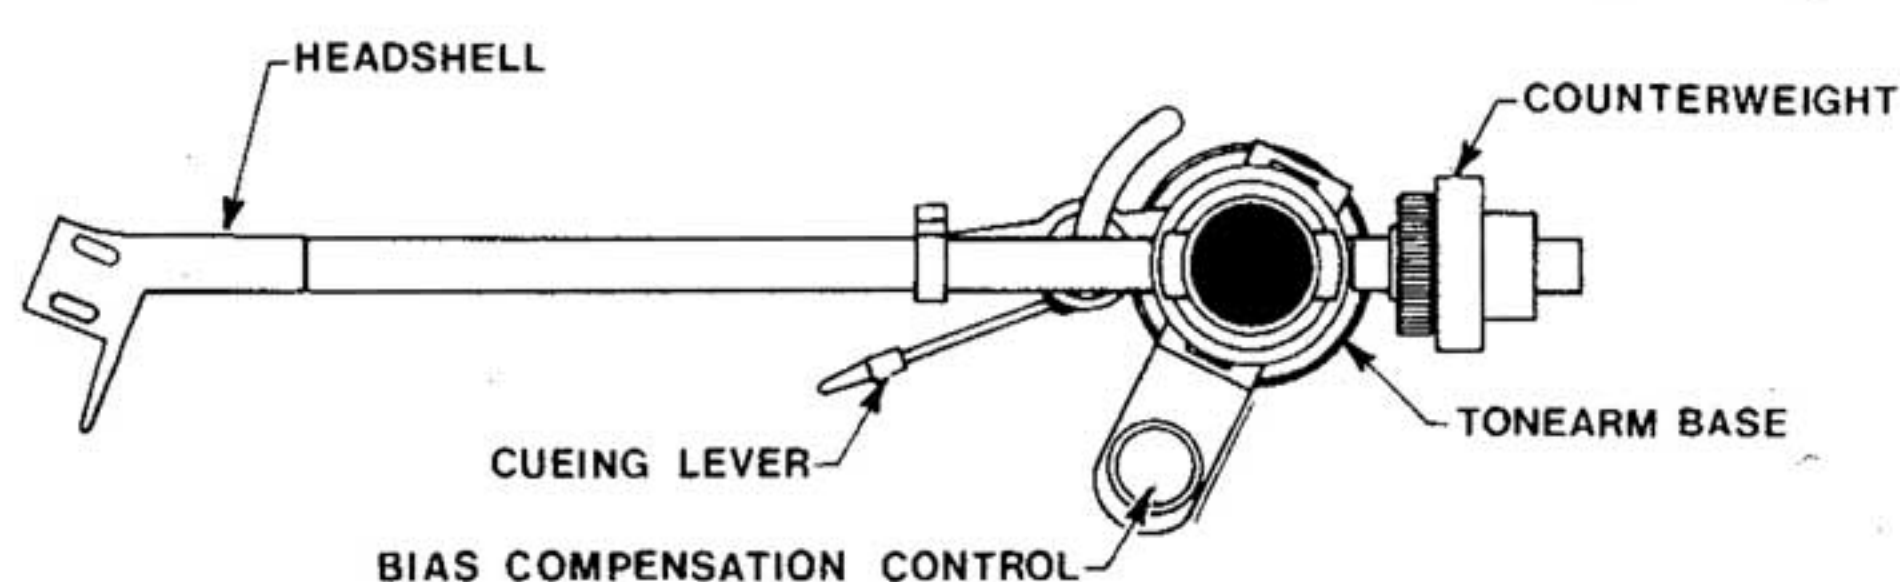
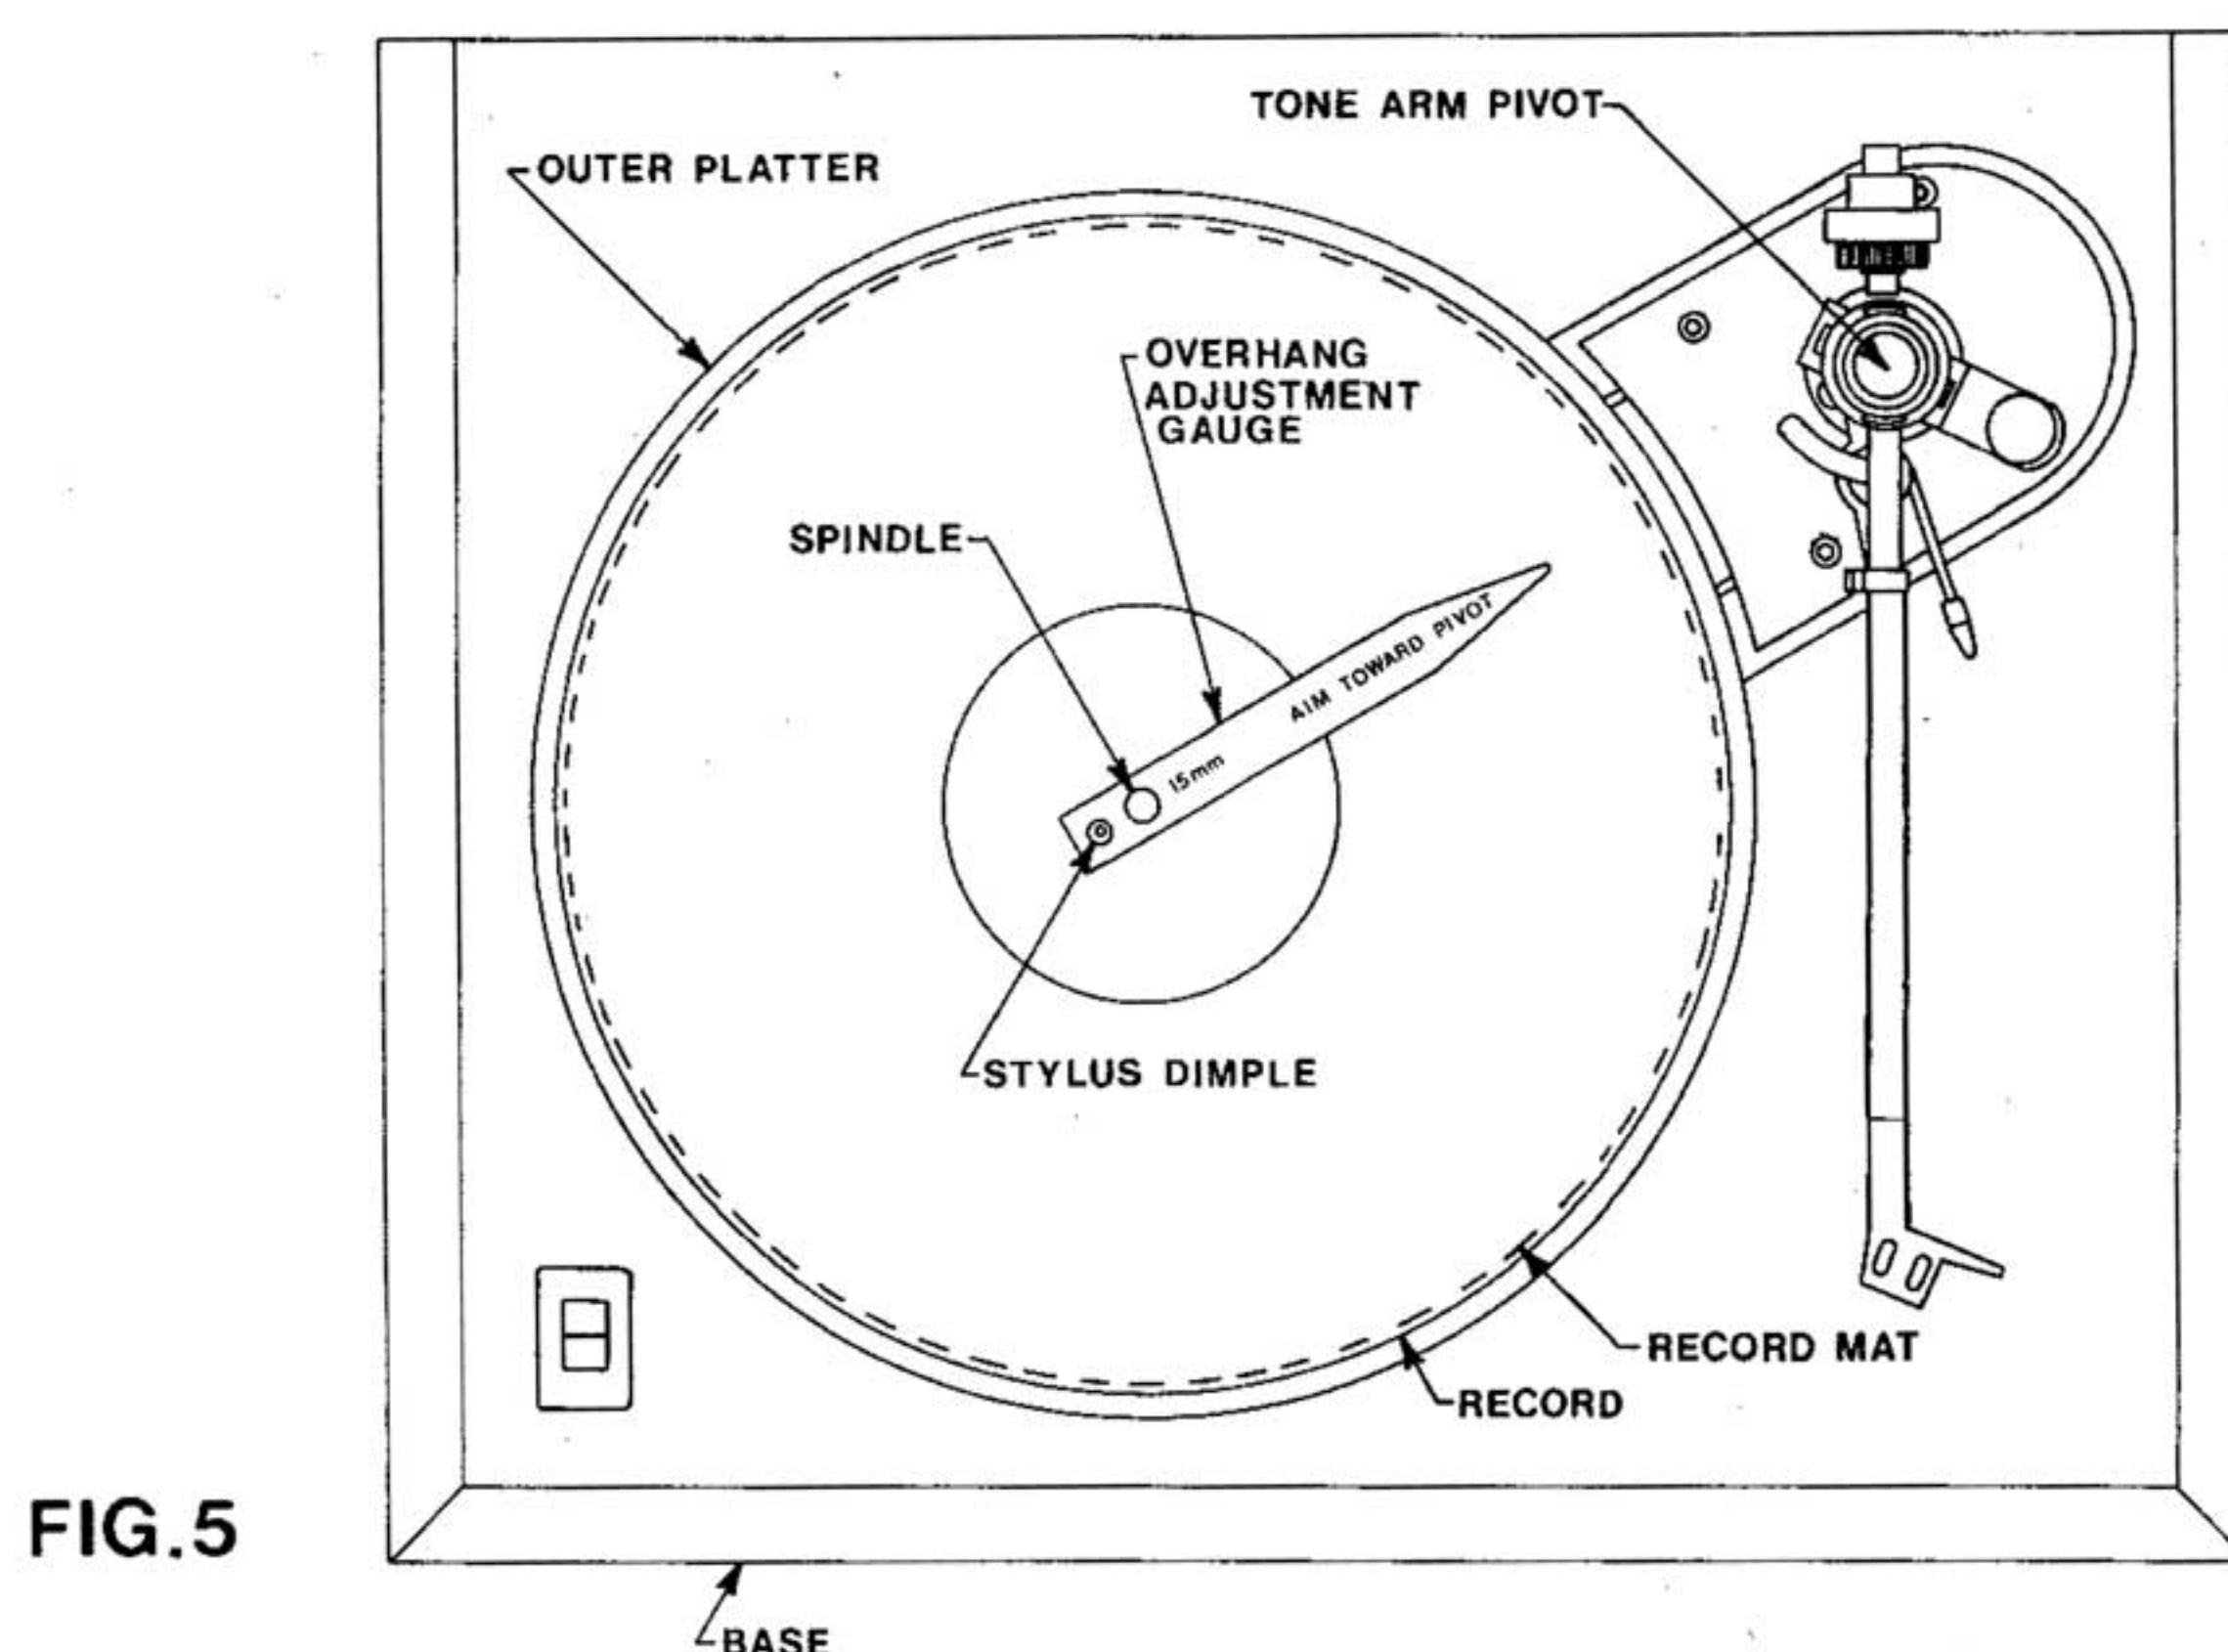

FIG. 3
FIG. 5
- (1) Mount the cartridge of your choice in the headshell. Follow the manufacturer's instructions in doing this and use either hardware supplied with the cartridge or that supplied with this turntable. The wiring in the headshell is color coded as follows: Right channel: red +, green -. Left channel: white +, blue -.
- (2) Mount the counterweight onto the rear of the tonearm. This is achieved by holding the weight by the large diameter and pushing it onto the rear of the tonearm (with the white numbers to the front) whilst rotating it in an anti-clockwise direction when viewed from the front.
- (3) Set the tracking force to about 1 gram. To do this, the arm first must be set to zero tracking force. Set the bias compensation control (fig 3) to zero, release the arm from the arm-rest, and then rotate the large-diameter counterweight until the arm floats freely in a horizontal position. The arm is now balanced to zero. Without moving the counterweight itself, now rotate the knurled calibrated dial relative to the counterweight until "0" is next to the white line on the tonearm. Now rotate the whole counterweight together with the calibrated dial in an anti-clockwise direction using the large diameter again until "1" is against the white line. The tracking force is now set to 1 gram.
- (5) Set the stylus overhang to 15mm. The clear plastic overhang gauge provided in the accessories is used in this step. Place the hole in the gauge over the turntable spindle and aim the pointed end of the gauge towards the pivot of the tonearm (fig 5). Loosen the screws holding the cartridge in the headshell and adjust the position of the cartridge backwards or forwards until the stylus point sits in the dimple in the raised portion of the gauge. It may be necessary to slacken slightly the 1.5mm allen screws in the tonearm base and rotate the entire tonearm temporarily in order to seat the stylus point as described above. **CAUTION—CARE MUST BE TAKEN NOT TO DAMAGE THE STYLUS ASSEMBLY WHILST MAKING THESE ADJUSTMENTS.** When the stylus is in this position with the cartridge body parallel to the straight edge of the headshell, gently place the arm back in the arm-rest without disturbing the cartridge setting and tighten the cartridge retaining screws firmly. Finally, recheck the cartridge position with the gauge to ensure that nothing moved, recheck that the arm is parallel to the record, and then rotate the arm to its correct position (if it was moved) and firmly tighten the screws in the arm base.
- (6) Rebalance the arm to zero and set the tracking force recommended by the cartridge manufacturer using the steps outlined in section (4).
- (7) Set the bias compensation force (fig 3). The dial should be turned to the tracking force set in section (7).
- (1) Connection. Your Acoustic Research Turntable is connected to your amplifier or receiver using the phono cables attached to it (if complete with the Acoustic Research Tonearm) or those that came with the arm of your choice. Units purchased with the Acoustic Research Tonearm also have a single wire attached to the phono cables which may be attached to the grounding screw on your receiver or amplifier. This will normally ensure that no problems with hum are experienced.
- (2) Hinged dust-cover. The dust-cover supplied with your turntable fits directly into the two hinges on the rear of the unit. It is a friction fit and is merely slid into place. It should be positioned such that the long slanting edge is to the front of the unit.
- (3) Playing a record. To turn on your Acoustic Research Turntable, the on/off switch is located at the front left of the base. If your unit was supplied with the Acoustic Research Tonearm, then this may be lowered onto the record by using the damped lowering mechanism, the control for which is the straight lever to the right front of the tonearm bearing (see fig 3).
- (4) Speed change. Your Acoustic Research Turntable will play at either 33 $\frac{1}{3}$ RPM or at 45 RPM. Speed change is effected by switching off the unit, removing the outer platter and then moving the belt to the correct diameter on the drive pulley. The small diameter is 33 $\frac{1}{3}$ RPM, the large diameter is 45 RPM. It may be helpful when changing to 45 RPM to also carefully relocate the belt on the inner platter such that it is in the lower position needed for that speed.